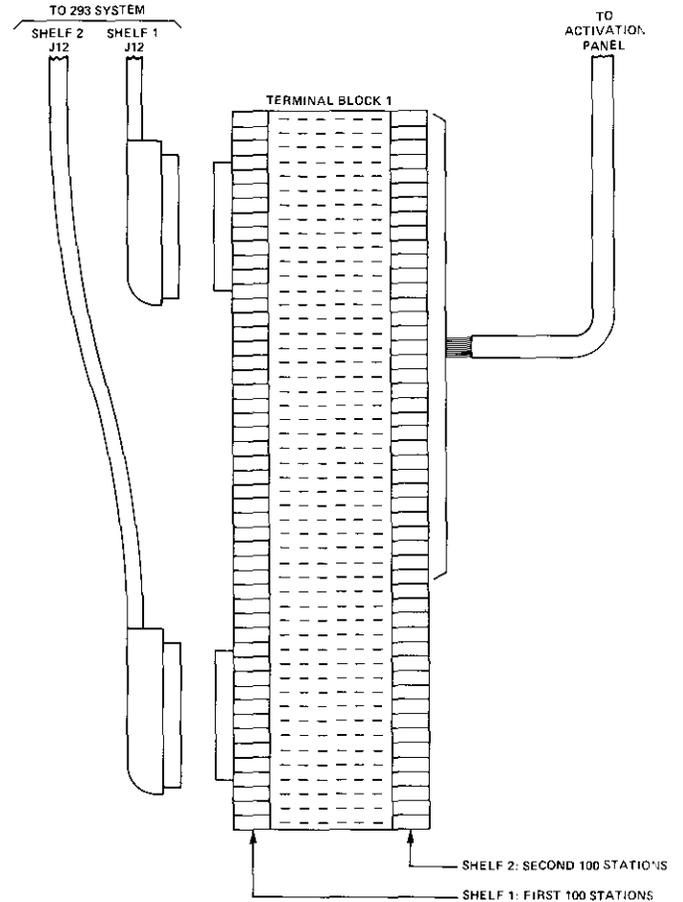

figure 5. 293 System terminal block configuration
- Connect the 24AWG 25-pair cable to the Type 66 Terminal Block to provide the activation panel with the zone-assignment, trouble, and audio connections. Please refer to figure 5 and table 5 for wiring instructions and to the paragraphs below for additional information.